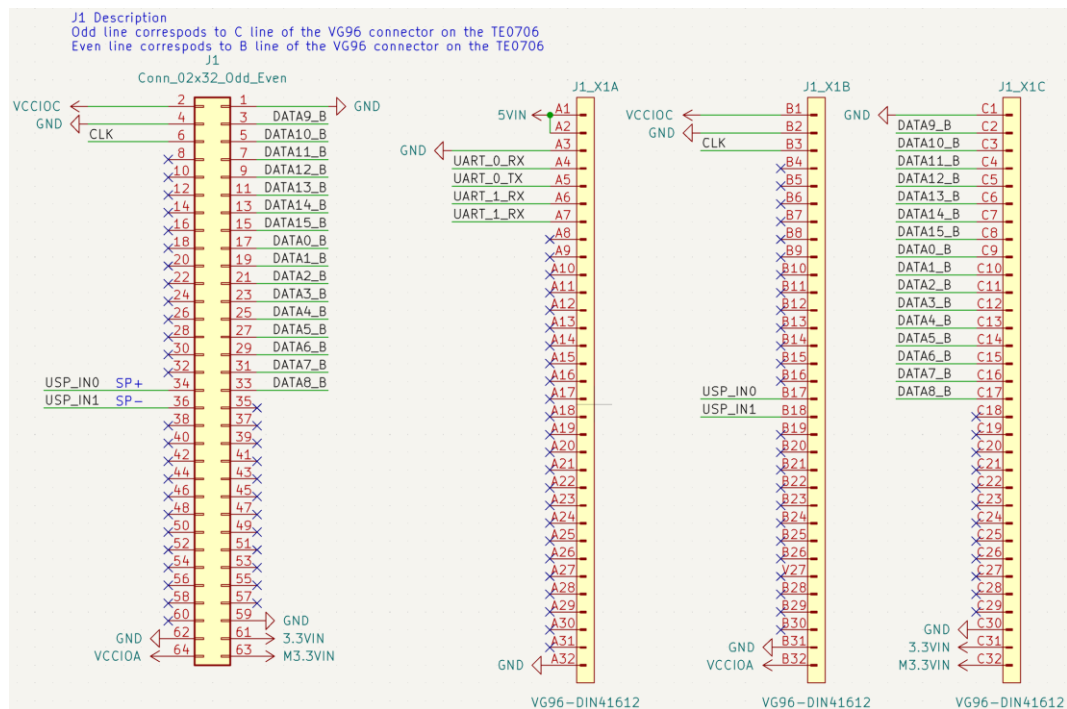

Figure 4: TE0706-03 and US EV board connector alignment.
**IMPORTANT:** After assembling EV Board to TE0706 carrier the alignment of J6 connector pins must be checked. The J6 connector has three rows of pins whereas US EV board has 2 rows. Use row B and C of the J6 connector on the TE0706-03 carrier board (see Figure 4).